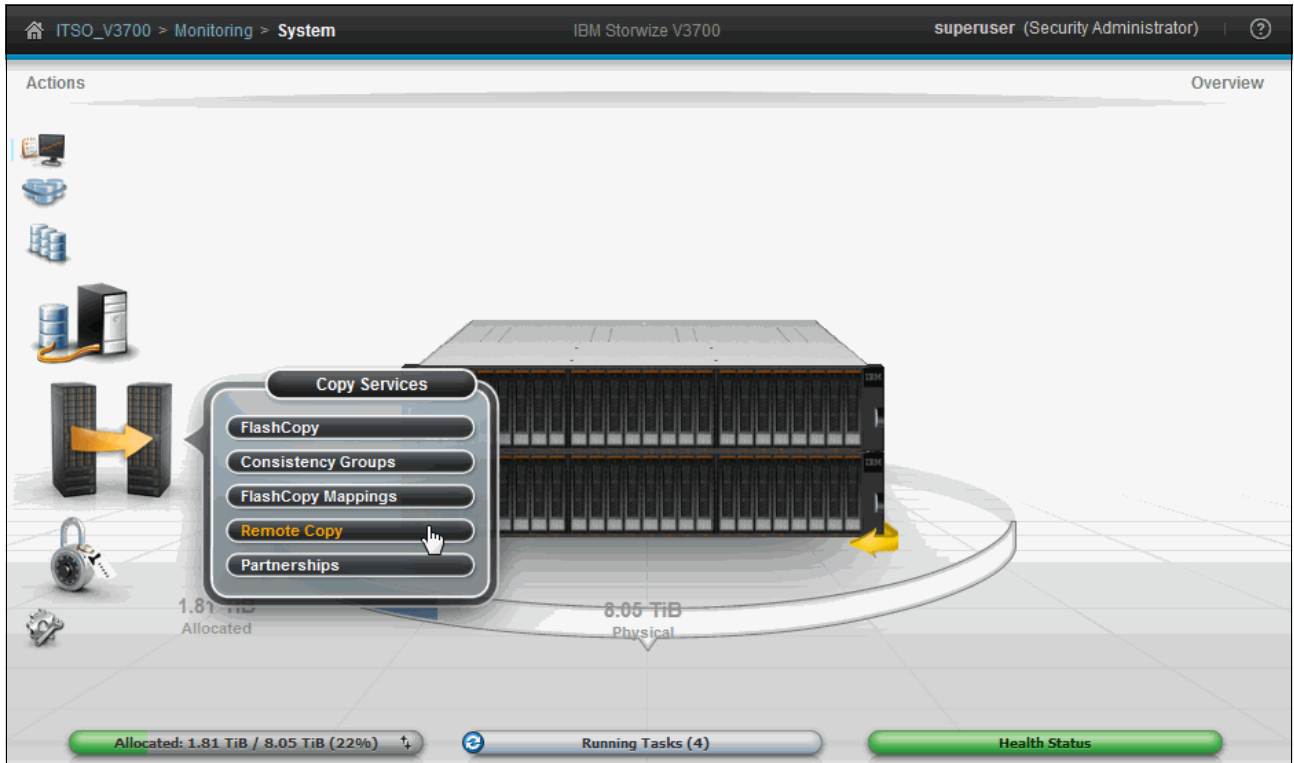

Figure 10-96 Open Remote Copy window
- Open the Remote Copy window to manage Remote Copy by clicking the **Copy Services** icon and then clicking **Remote Copy**, as shown in Figure 10-96 on page 543.